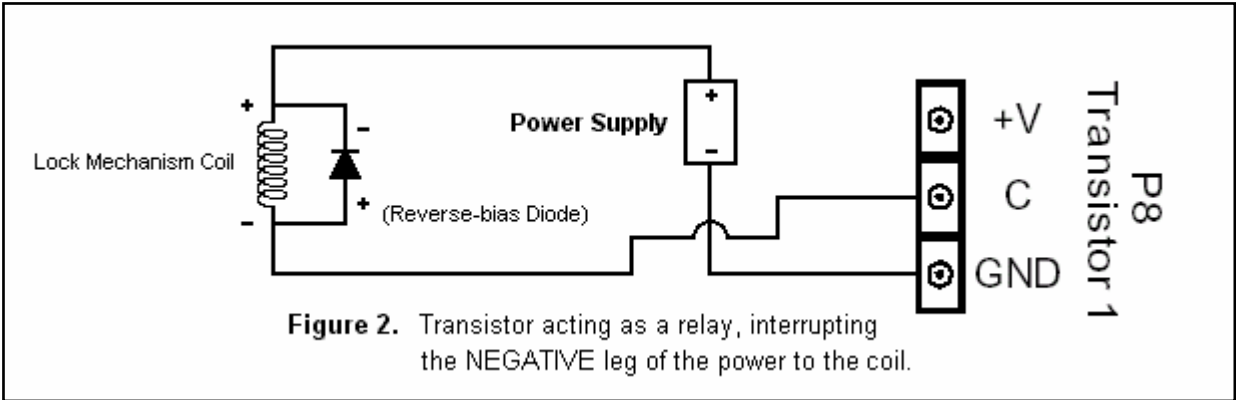

Figure 2. Transistor acting as a relay, interrupting the NEGATIVE leg of the power to the coil.
The second method employs the use of an external power supply, and acts very much like a relay output, except that in this case, only the **negative** power lead can be interrupted via the collector (C) output and the ground (Gnd) connector (see **Figure 2** below). In this case, when the transistor output is active, the collector output "drops" to ground, thus allowing the current from the external power source to flow into the locking mechanism.